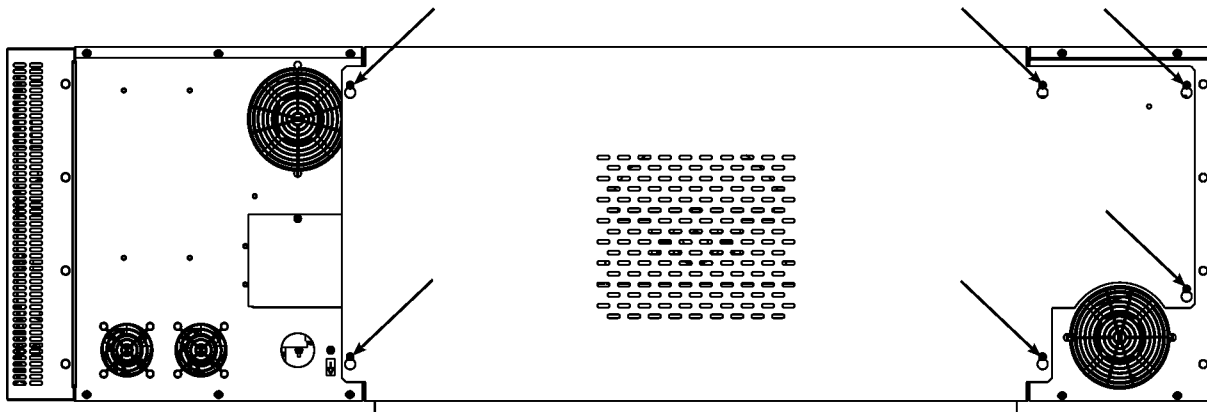

Figure 4-38.
1. Check the main blower/fan belt for proper tension and wear. To gain access, loosen the six screws (Figure 4-38) of the rear shroud and lift shroud cover up and off.